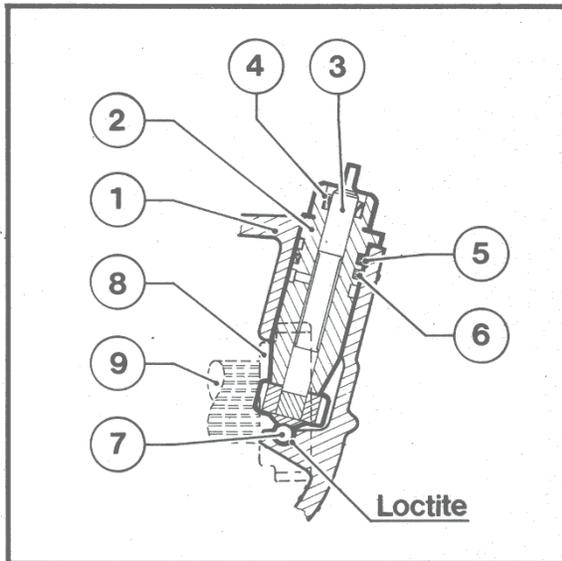

Fig. 7 Sectional view of the speedometer drive
DISMOUNTING THE SPEEDOMETER DRIVE FROM DRAG LINK ARM CASE AND REMOUNTING (FIGURE 7)
3. Drive out pin figure 7/5.
4. Pull out bearing bush figure 7/2 with helical gear and shaft figure 7/3 from drag link arm case.
2. The ball (figure 7/7) for supporting the helical gear can be checked as to tight seat or stuck in only when drag link arm case is dismantled. Secure with LOCTITE No. 245.